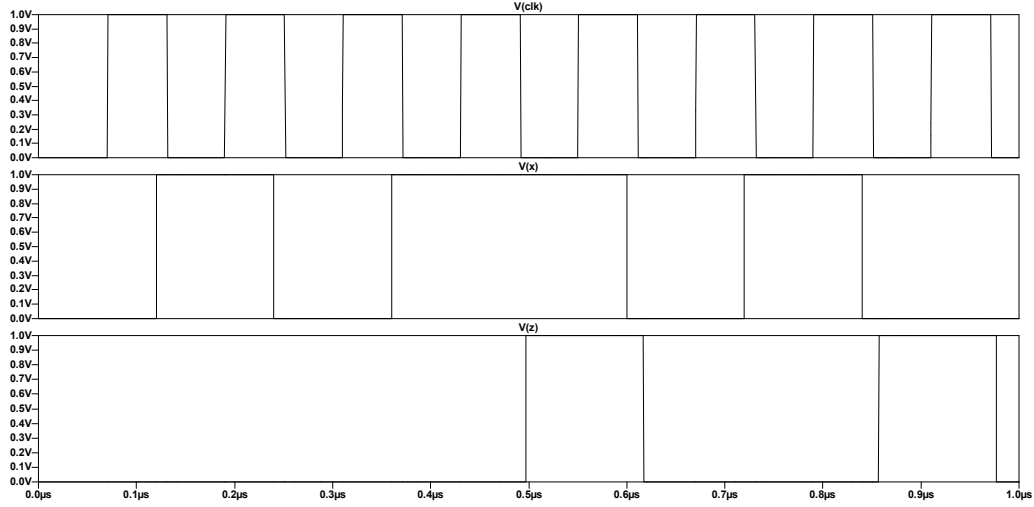

Figure 7: LTspice Simulation Traces V(CLK), V(X) and V(Z) for Q12
Figure 7 shows the output V(Z) as a flat line indicating the circuit is not operating correctly due to being clocked too fast.
Figure 7 shows the output V(Z) now producing the correct output when clocked at 120ns. Introducing a delay of 10ns, the time between a change in V(x) and the rising edge of V(CLK) now becomes  $60ns + 10ns + 0.5ns = 70.5ns$ , where the 10ns is the additional delay and 0.5ns, the delay caused by a 1ns rise time. the measured value of  $t_{JHBCD} = 70.36$  which is less than 70.50ns therefore will propagate in time V(Z) to be clocked.